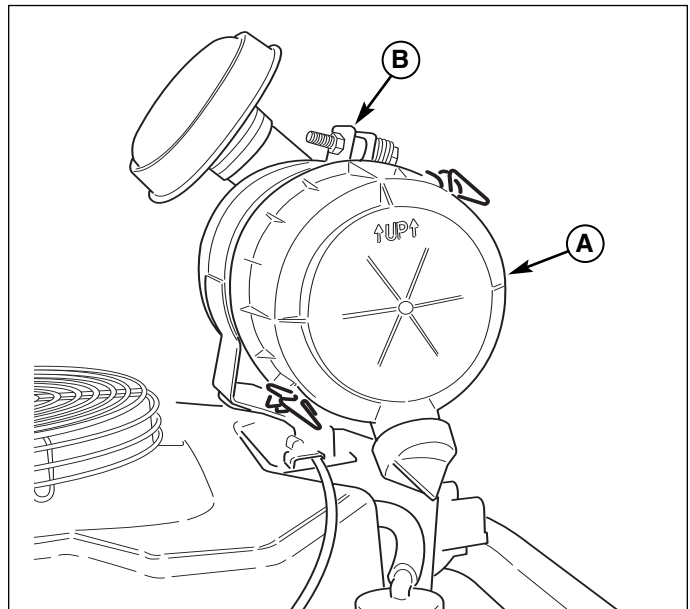

**Figure 34. Inlet Installation**
2. Install the inlet from the inside of the box (see Figure 34). Make sure the inlet is perpendicular to the top of the box. (When the box is installed on the machine, the inlet will be pointing straight down.)